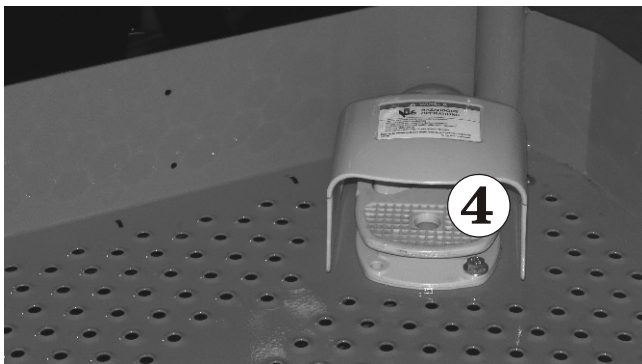

Figure 11.3 - Enable Switch (Foot)
4. Step on the platform foot switch ④ (see Figure 11.3).
5. Whilst still operating the enable switch, press and hold the **Emergency Lower** switch ⑥ down and the upper boom will begin lowering.
**Enable ⑤ or ④** (foot switch - Figure 11.3)
**Emergency Lower ⑥**